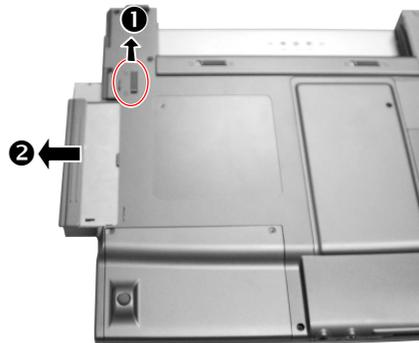

Figure 2-12 Remove CD/DVD-ROM
3. Pull the CD/DVD-ROM out of the compartment (②) while sliding and holding the release lever outwards to the “unlock” (☞) position (①). (Figure 2-12)